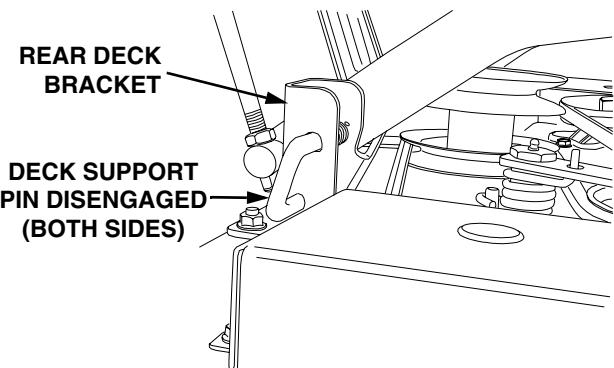

Figure 38
- Pull the deck support pins outward, turn downward and release so both spring-loaded pins are held in the disengaged position against the outer surface of the deck brackets (See Figure 38).